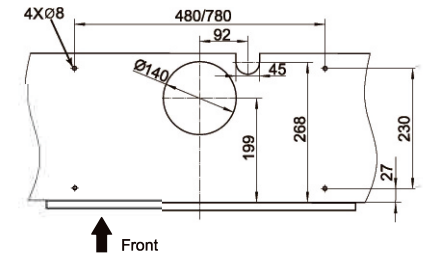

Fig.10
- Drill a hole of 140mm diameter, 4X  $\varnothing 8$  mounting holes and one clearance for power cord on the cabinet board, respecting the distance indicate in Fig.10.